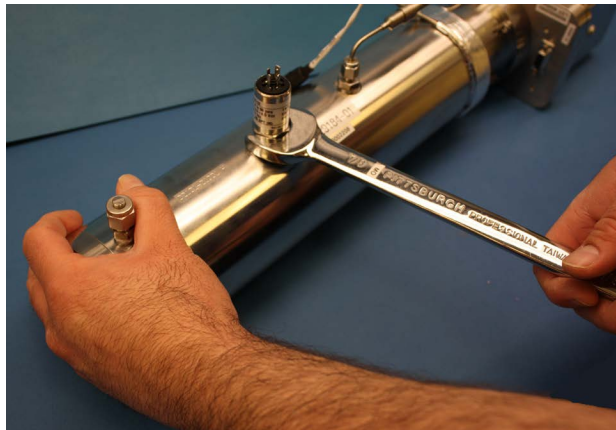

Figure B-6 Removing the old pressure sensor
- 11.** Holding the cell firmly with one hand, use a 7/8 in. wrench to remove the old (to be replaced) pressure sensor as shown in Figure B-6 below.